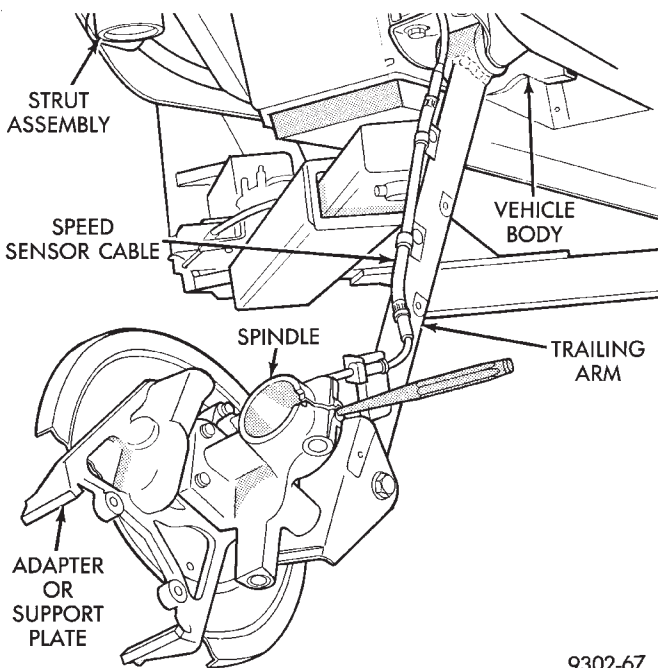

Fig. 9 Spindle Assembly Removed From Strut
(11) Let the rear spindle and assembled components hang from trailing arm (Fig. 9) while strut assembly is out of the vehicle.
(12) Lower vehicle.
(13) To remove the rear upper strut mount from the vehicle, access the upper strut mount to strut tower attaching nuts from the trunk of the vehicle.
(14) Remove the 3 rear strut assembly to body mounting nuts, and remove strut assembly from vehicle.